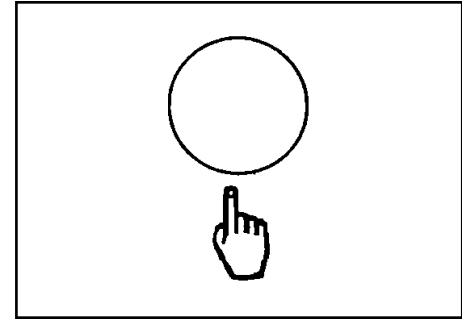

Figure 33
5. The machine has a one touch button on the control panel (see figure 33) that is preset for brush pressure and solution flow. Momentarily depress the one touch button if you wish to use these settings. **NOTE: If this is not the settings that you desire see page 16 or one touch operation.**